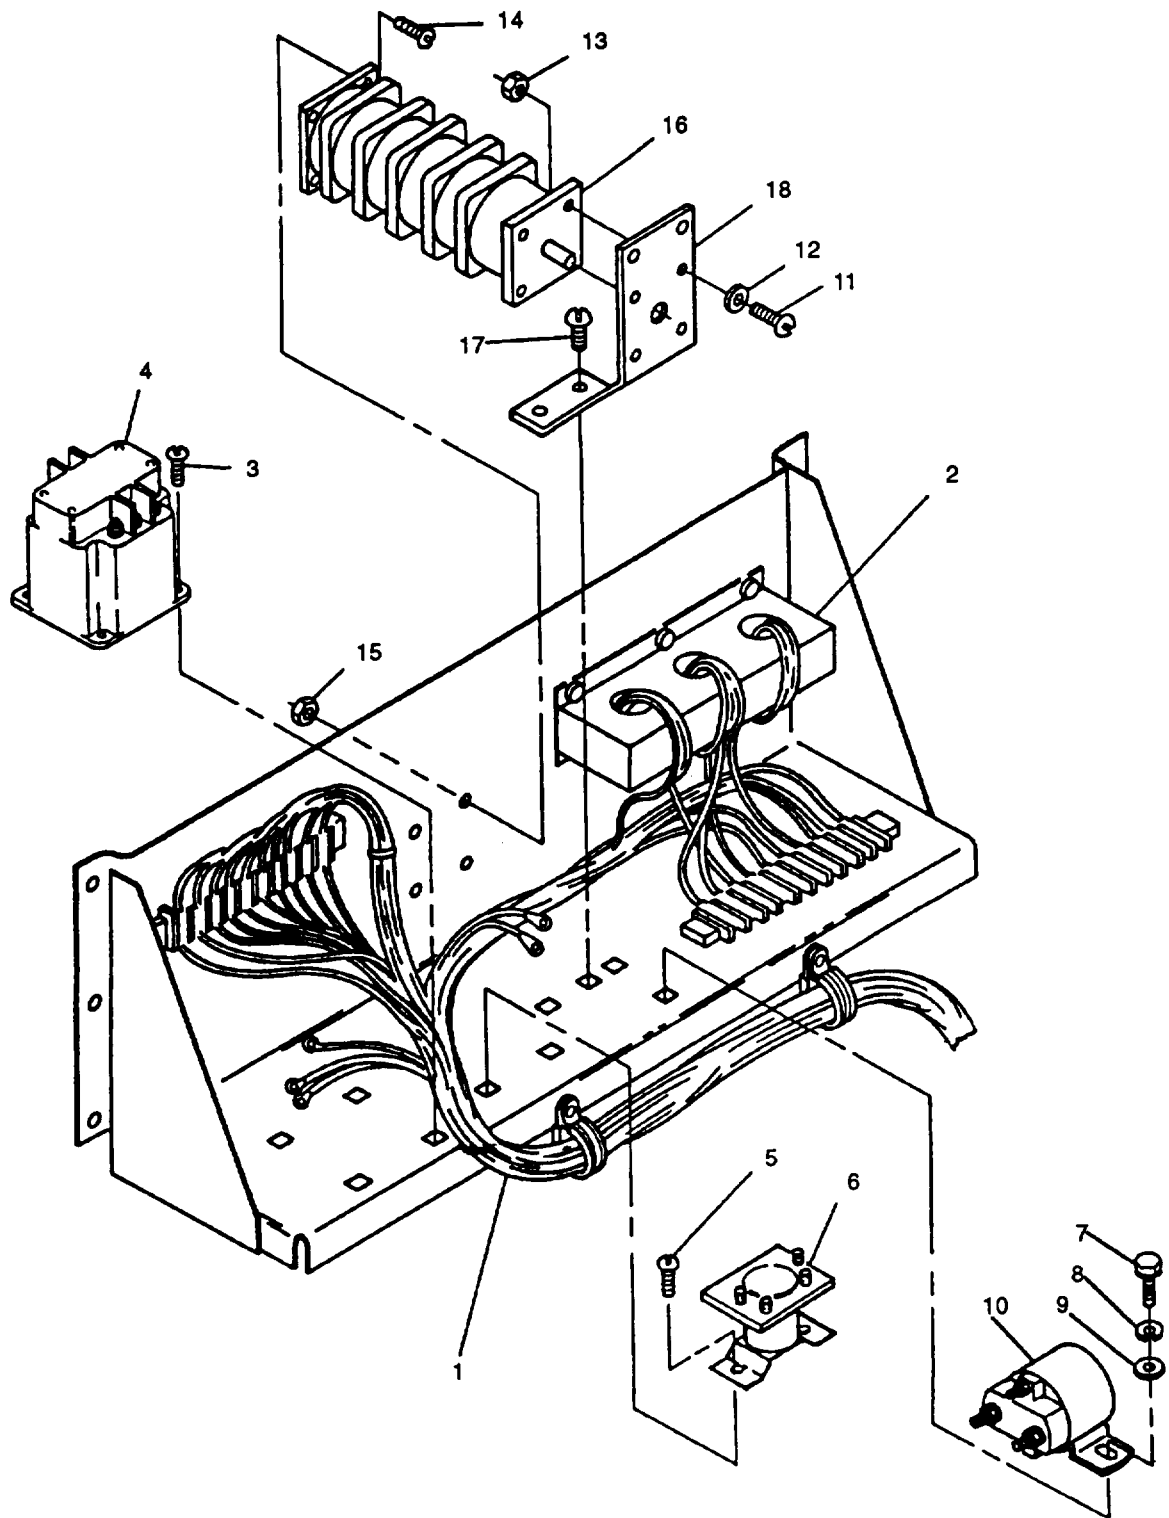
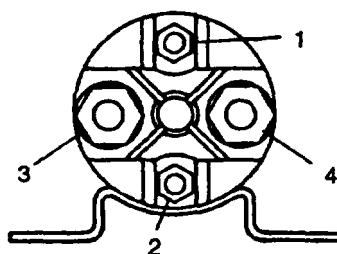

FIGURE 2-16. Output Box Assembly
FIGURE 2-17. Pre-Heat Relay Terminals
- d. Inspect wiring harness (1, FIGURE 2-16) for burned, bent, corroded, and broken terminals.
- c. Inspect current transformer (2, FIGURE 2-16) for cracks, loose or stripped threads, and evidence of overheating.
- c. Tag and disconnect current transformer (2, FIGURE 2-16) electrical leads from secondary terminals.
- d. Inspect AC circuit interrupter relay (4, FIGURE 2-16) for dents, cracks, and loose or stripped studs.
- d. Tag and disconnect electrical leads to AC circuit interrupter relay (4, FIGURE 2-16).
- e. Remove screws (3) and AC circuit interrupter relay (4) from output box.
- a. Install AC circuit interrupter relay (4, FIGURE 2-16) with screws (3) in output box assembly.
- d. Inspect cranking relay (6, FIGURE 2-16) for dents, cracks, and loose or stripped studs.
- d. Disconnect and tag electrical leads to cranking relay (6, FIGURE 2-16).
- e. Remove screws (5) and cranking relay (6) from output box assembly.
- d. Tag and disconnect wires from terminals X1, X2, and A2 of cranking relay (6, FIGURE 2-16).
- a. Install cranking relay (6, FIGURE 2-16) with screws (5) in output box assembly.
- d. Inspect preheat relay (10, FIGURE 2-16) for dents, cracks, stripped studs, and missing parts.
- d. Tag and disconnect electrical leads from preheat relay (10, FIGURE 2-16).
- e. Remove bolts (7), lockwashers (8), washers (9), and relay (10) from output box.
- d. Tag and disconnect wires from preheat relay (10, FIGURE 2-16) terminals 1, 2 and 3. See FIGURE 2-17 for terminal positions.
- a. Install preheat relay (10, FIGURE 2-16) in output box with bolts (7), lockwashers (8), and washers (9).
- d. Inspect voltage reconnection switch (16, FIGURE 2-16) for cracks, missing parts, and loose hardware.
- d. Tag and disconnect electrical leads to voltage reconnection switch (16, FIGURE 2-16).
- a. Install mounting bracket (18, FIGURE 2-16) with screws (17) in output box assembly.